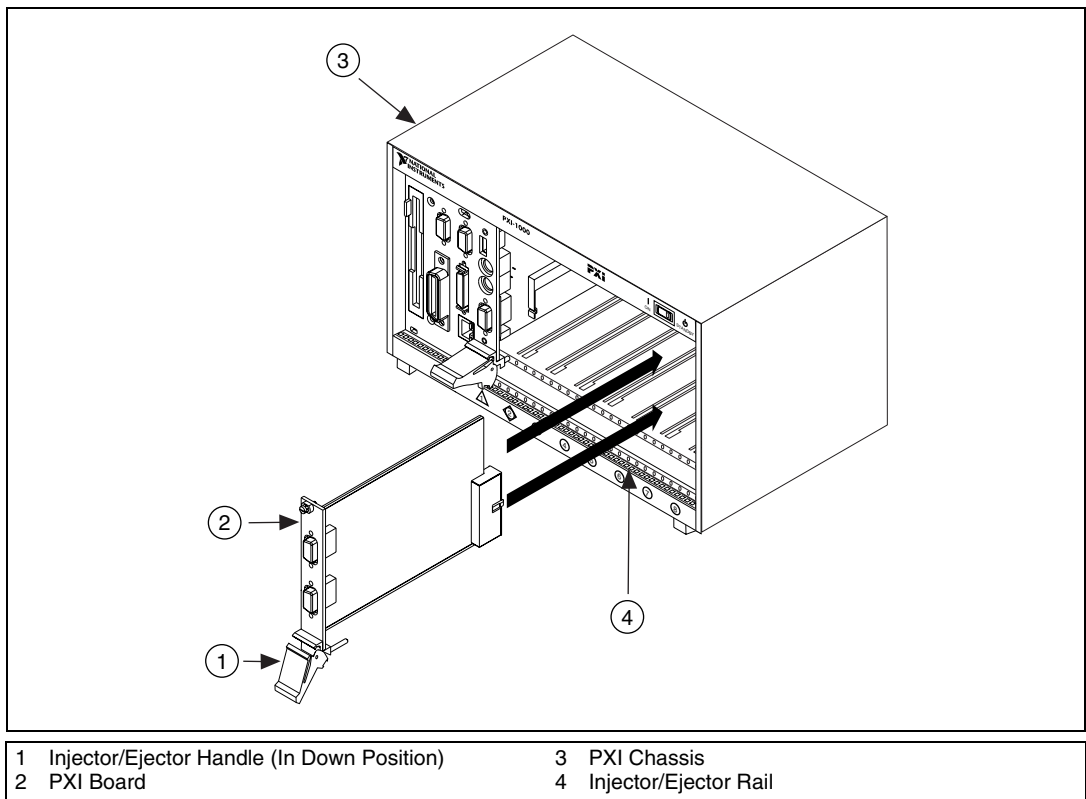

Figure 2-2. Installing the PXI Hardware
6. Insert the PXI board into the selected 5 V slot. Use the injector/ejector handle to fully inject the device into place. Figure 2-2 shows how to install the PXI board into a PXI or CompactPCI chassis.